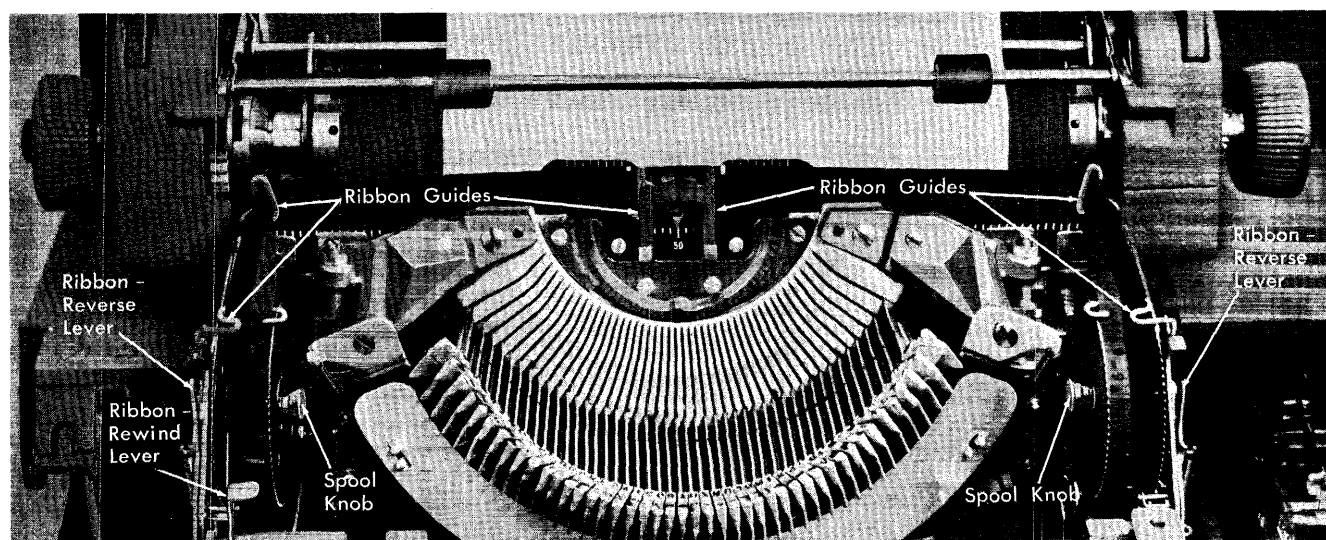

Figure 83. Ribbon Threading
2. Wind all the used ribbon onto one spool by pressing the ribbon rewind lever (Figure 83). When all the usable portion is on the spool, winding stops automatically and the ribbon-reverse lever next to the full spool goes down.